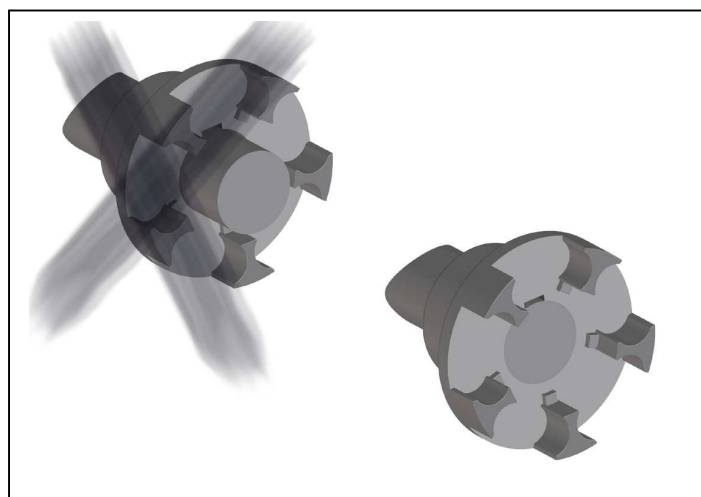

Fig. 4
- Mount the hub in such a manner that the shaft end is flush with the inner bore opening (Fig. 4). Observe deviant agreements, which may exist!